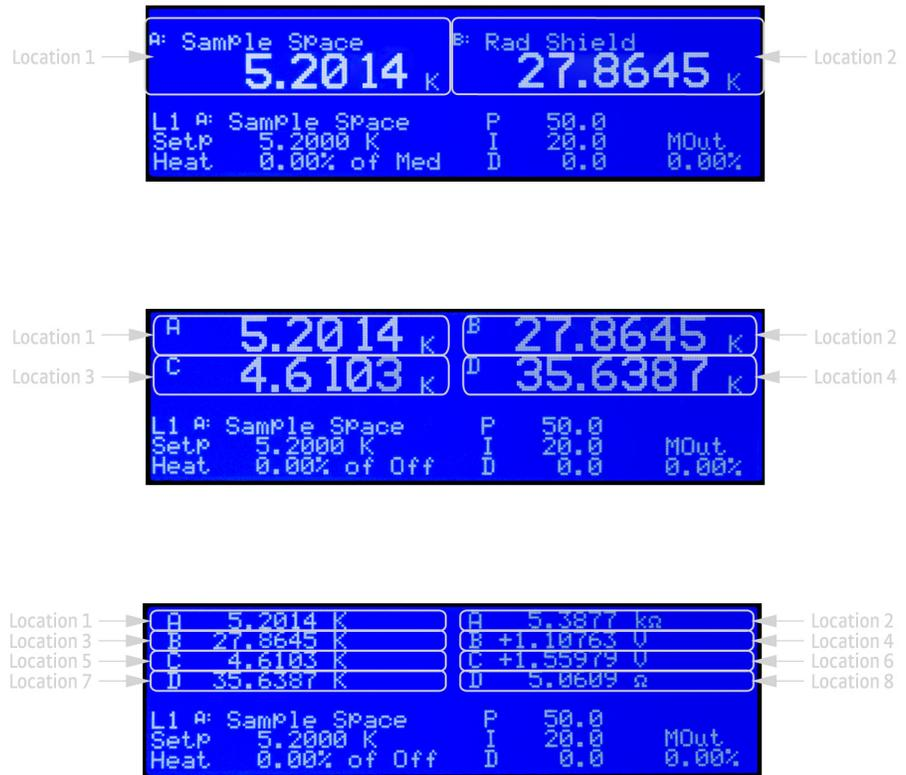

FIGURE 4-5 Top to bottom: Model 336 screen images showing 2, 4 and 8 display locations
- Locations:** depending on the Number of Displays parameter, there can be anywhere from two to eight display locations for displaying sensor readings. The placement of a given display location on the front panel LCD depends on the Number of Displays setting (FIGURE 4-5).